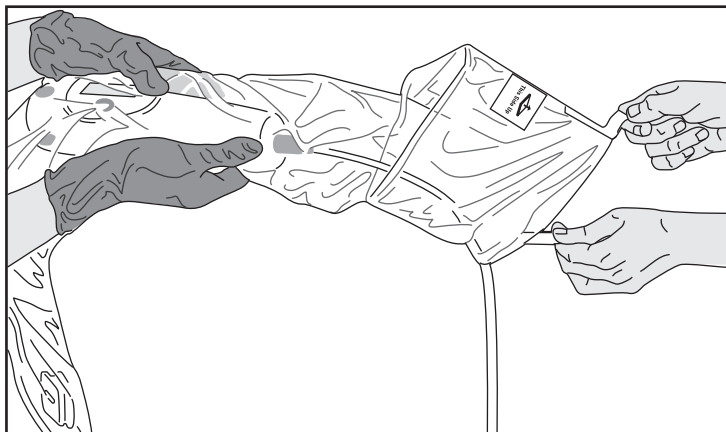

Figure 5. Unfolding the Bag
6. The sterile operator then grasps the covered MDU5 PLUS. The non-sterile operator grips and pulls the tabs until the bag is unfolded to its full length (Figure 5).